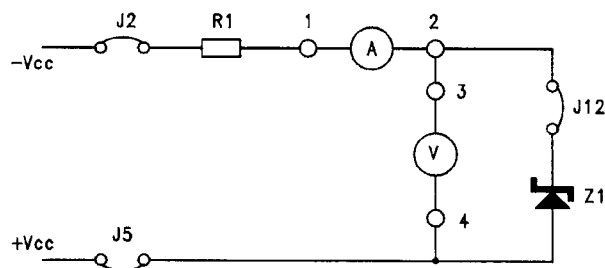

fig.B08.5
- Connect jumpers J2, J12, J5, the ammeter and the voltmeter to produce the circuit of figure B08.5